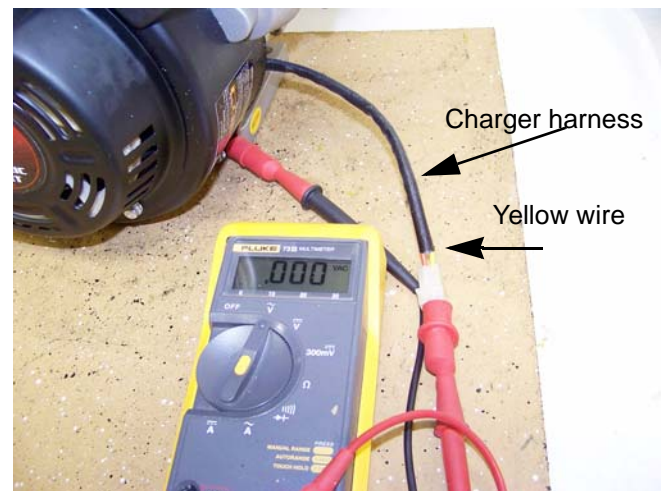

Figure 6.14
3. Connect the red (+) lead of the multimeter to the yellow wire in the charger harness. See Figure 6.14.